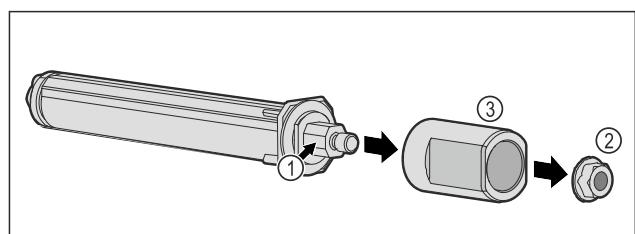

Fig. 46
► Do not dismantle the door locking system Fig. 46 (1).
► Remove the nut Fig. 46 (2).
► Remove the sleeve Fig. 46 (3).